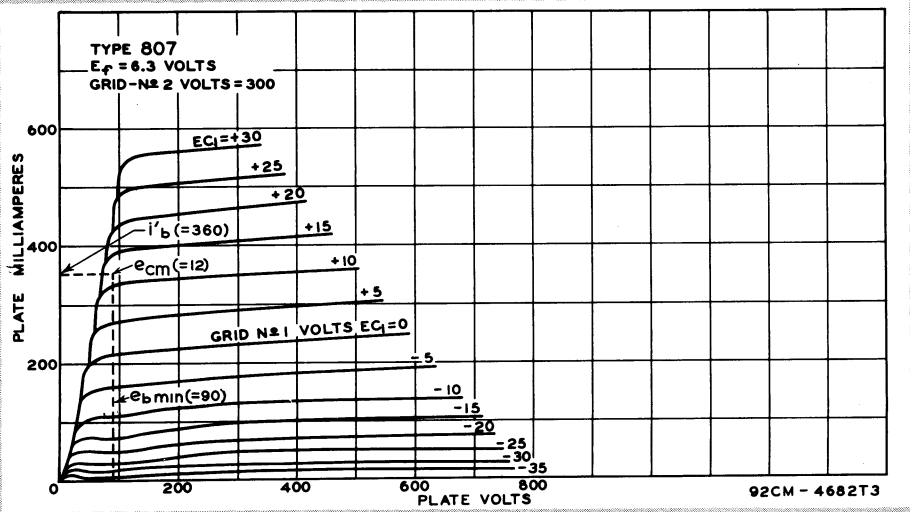
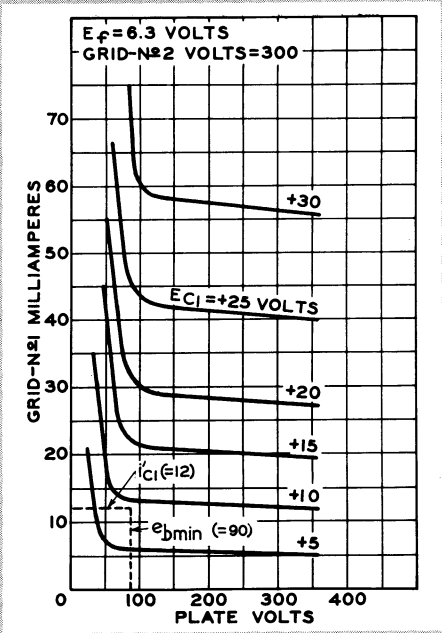

Fig. 1. Average plate characteristics for the type 807 tube (grid-No. 2 voltage = 300).
Fig. 2. Average control-grid characteristics for the type 807 tube grid-No. 2 voltage = 300).
4. From the 300-v  $E_{c2}$  curves, Fig. 1, select  $e_{bmin} = 90 \text{ v}$ , and read  $e_{cm} (= +12 \text{ v})$ . From Figures 2 and 3, read  $i'_{c1} = 12 \text{ ma}$ , and  $i'_{c2} = 35 \text{ ma}$ , respectively.
$$10. E_{c1} (\text{from Fig. 1}) = -35 \text{ v.}$$